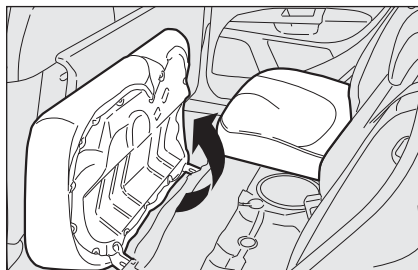

fig. 81
- ☐ tilt the cushions forward as shown by the arrow **fig. 81**;